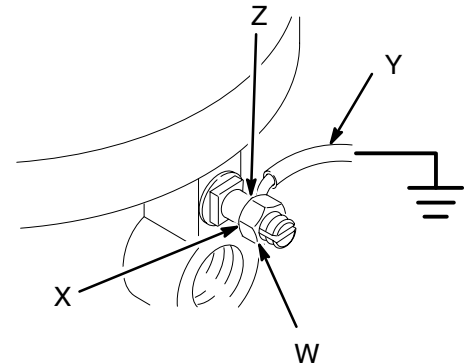

Fig. 1
- *Pump:* Use a ground wire and clamp. See Fig.1. Loosen the grounding lug locknut (W) and washer (X). Insert one end of a 12 ga (1.5 mm2) minimum ground wire (Y) into the slot in lug (Z) and tighten the locknut securely. Connect the other end of the wire to a true earth ground. For a ground wire and clamp, order Part No. 237569.